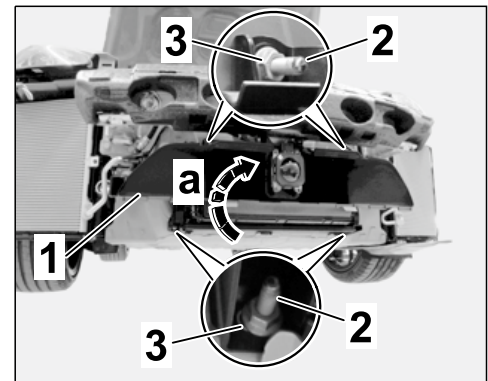

Figure 15
- 3.3 Guide radiator assembly $\Rightarrow$ Figure 15 -1- in between the body and distance measuring sensor control unit from below $\Rightarrow$ Figure 15 -arrow a- and position it on the threaded bolts $\Rightarrow$ Figure 15 -2-.
Tighten M6 hexagon nuts $\Rightarrow$ Figure 15 -3-.